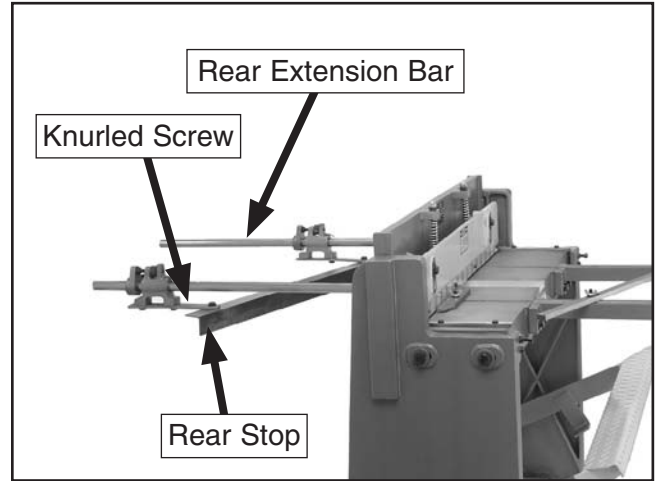

Figure 12. Installing rear extension bars.
3. Attach the rear stop to the rear extension bars and secure with the knurled thumb screws (**Figure 12**).